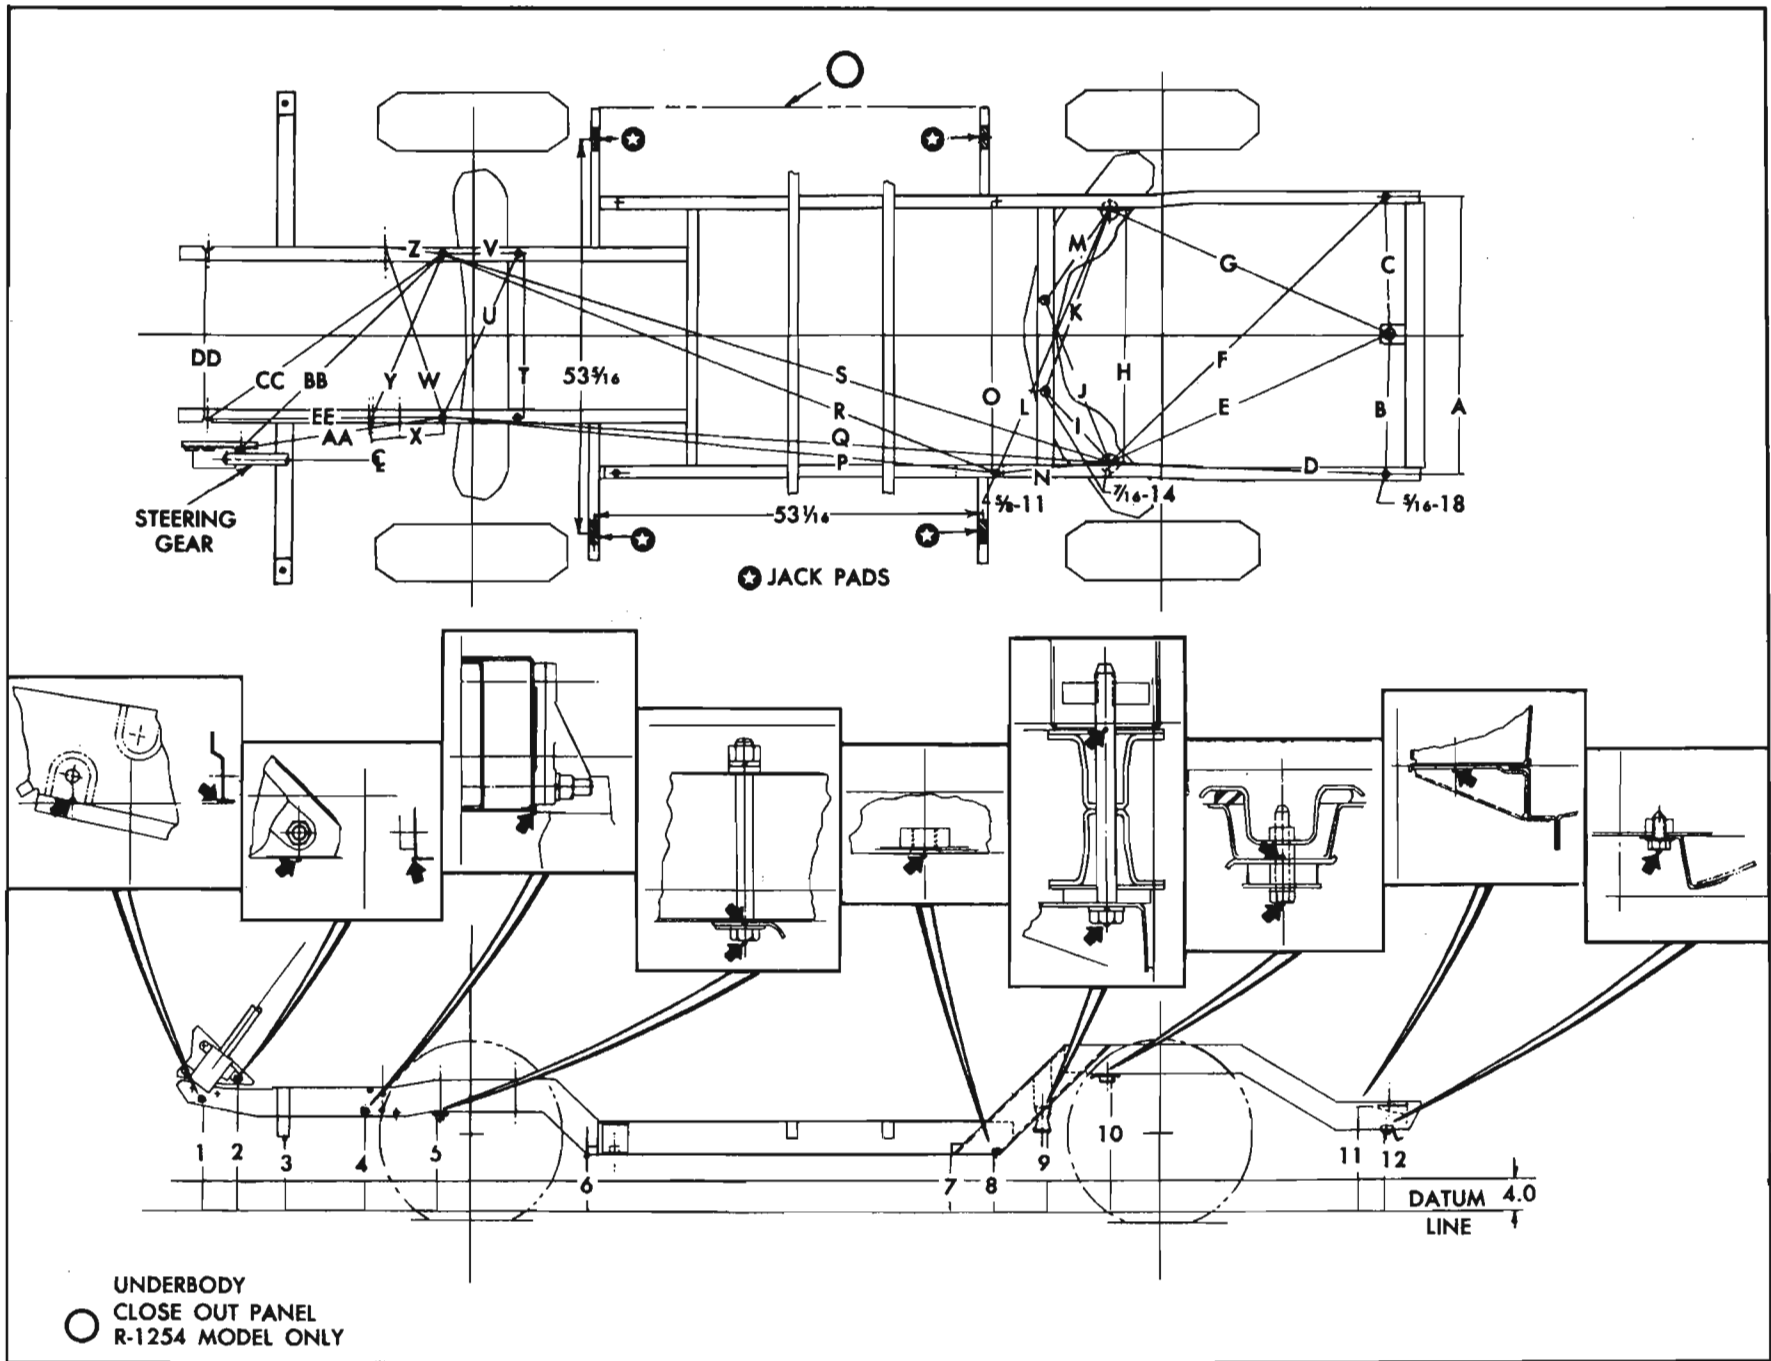

Fig. 10-14a—Point Dimensions
NOTE: A welding and locating fixture can be made from C. R. steel. See Figure 10-14a for mounting dimensions.
1. Using a tramming gage, center the rear support to correct location as shown in Figure 10-14a.